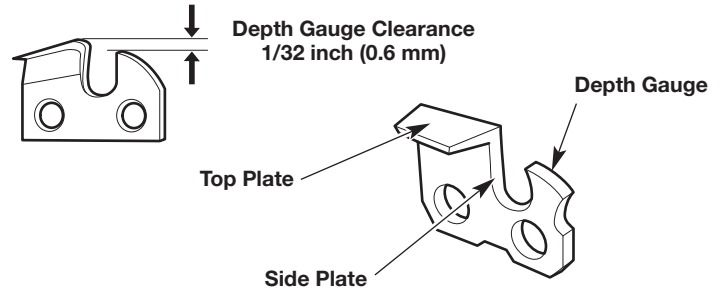

Fig. 36
- Keep the file level with the top plate of the cutter (Fig. 36). Do not let the file dip or rock. Use light, but firm pressure.